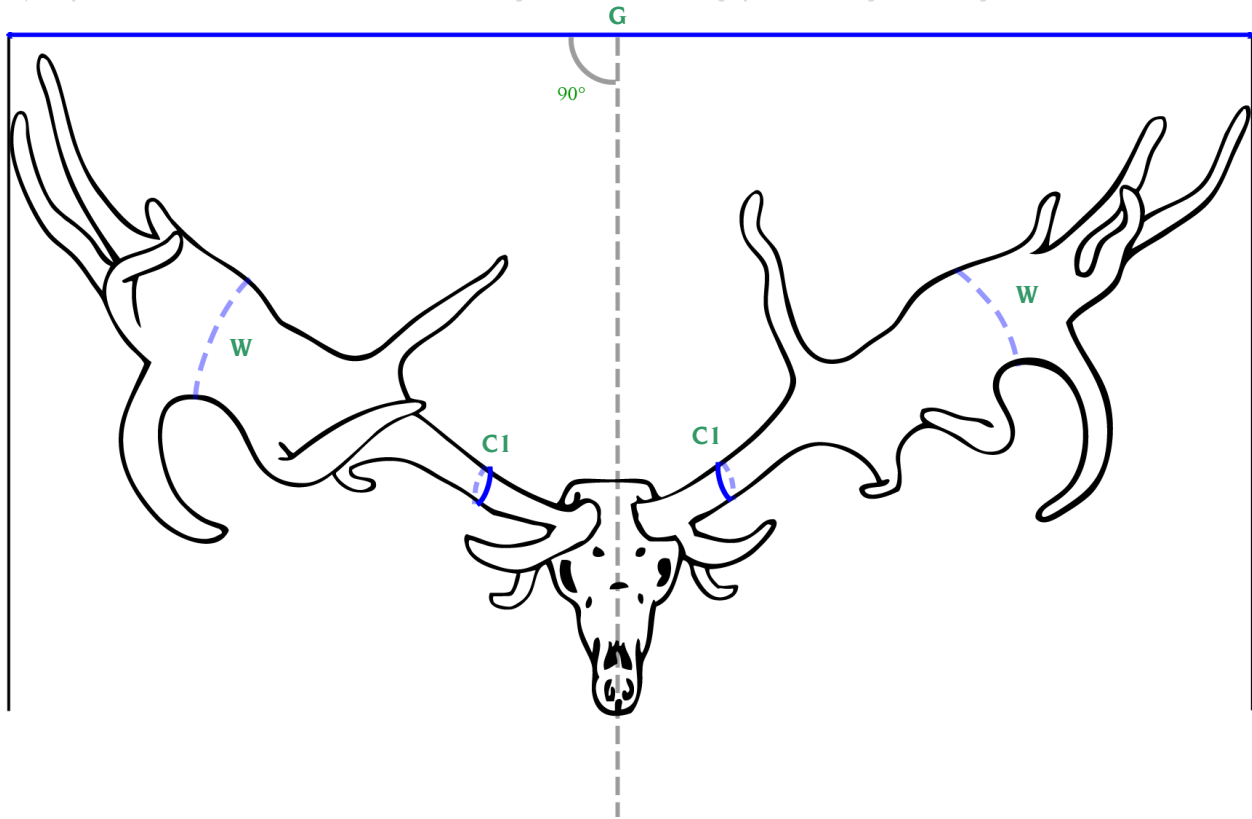

Figure 3
These were the largest deer ever known and had gigantic proportions. The No. 1 head in Rowland Ward measures a remarkable 168 inches of outside spread (14 feet or 4.26 meters). Because the palms on an Irish elk tend to spread outward rather than backward (as with a moose) and because Irish elk almost never have a brow palm, RW measures only the palm width and not the palm length of this animal. (Figure 3, W) All other measurements should be taken as listed under method 4-a: greatest spread (G), circumference (C1), and counting all tines over 1 inch in length. If possible, get a weight, but take no risks that may break a set of antlers.